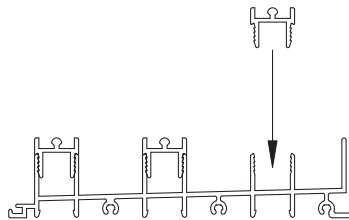

Figure 18
15. After installation screws are sealed, install the sill inserts. There is one insert for each track. (See Figure 18)